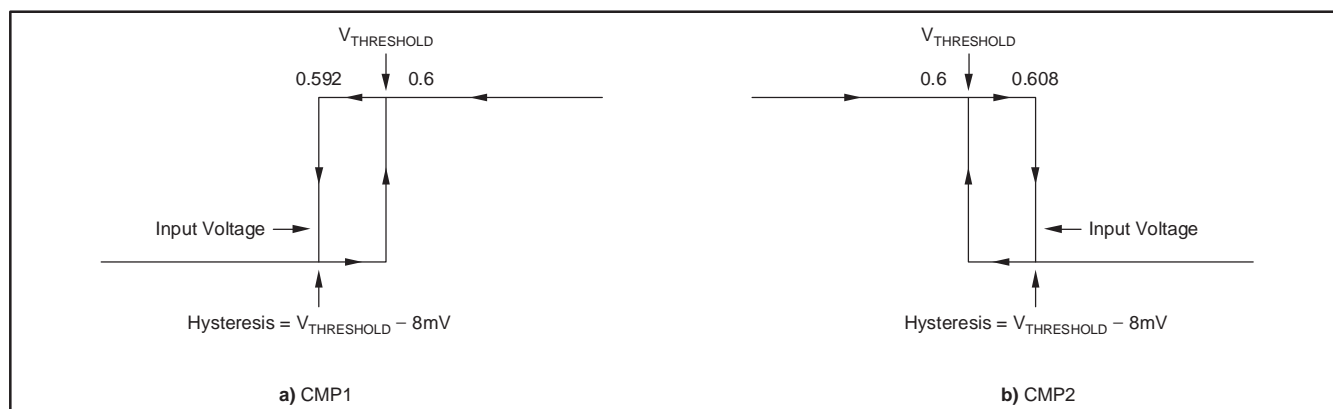

Figure 1. Comparator Hysteresis
- (1) Hysteresis refers to the threshold (the threshold specification applies to a rising edge of a noninverting input) of a falling edge on the noninverting input of the comparator. Refer to Figure 1.
- (2) Specified by design.
- (3) See the *Comparator Maximum Input Voltage Range* section in the Applications Information.
- (4) The comparator response time specified is the interval between the input step function and the instant when the output crosses 1.4V.
- (5) RESET input has an internal 2M Ω (typical) pull-down. Leaving RESET open results in a LOW state, with transparent comparator operation.
- (6) The Comparator 2 delay applies to both rising and falling edges of the comparator output.